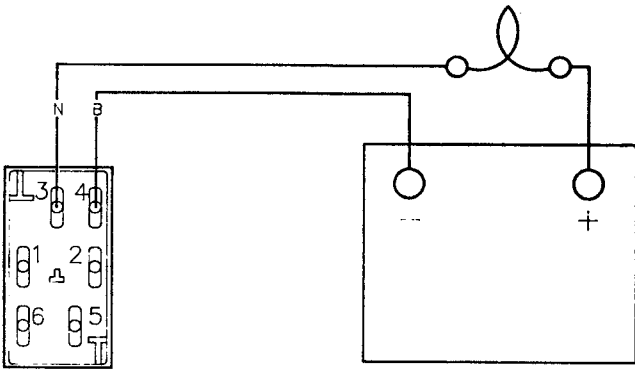

Figure 3
2. Using a slave battery connect a test lamp circuit to the switch, ie. positive lead to terminal 3 and negative lead to terminal 4, see figure 3.